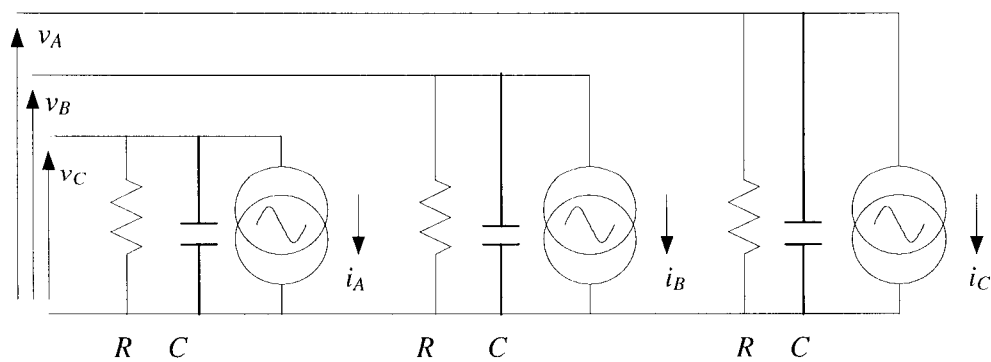

Figure 1.1
- (b) (i) Write a set of voltage and current equations to describe the circuit in Figure 1.1 and transform them to dq form.